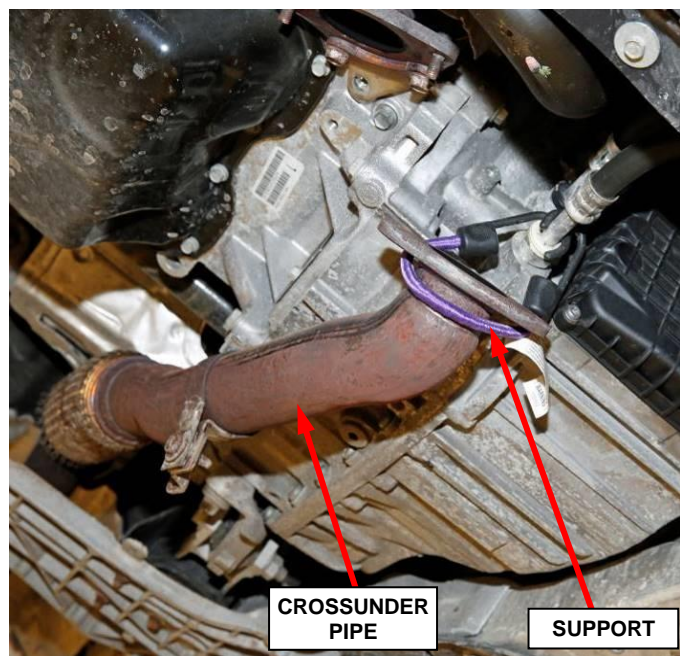

Figure 3 – Support Crossunder Pipe
7. Disconnect the exhaust crossunder pipe from the maniverter and support the exhaust crossunder pipe to prevent damage to the flex joint (Figure 3).